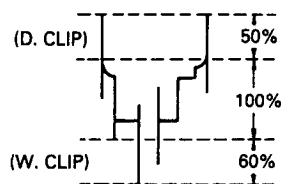

Figure 67.
3. Monitoring TP201 with an oscilloscope, adjust R216 (DARK CLIP) and R215 (WHITE CLIP) to attain the figures given in Figure 67.